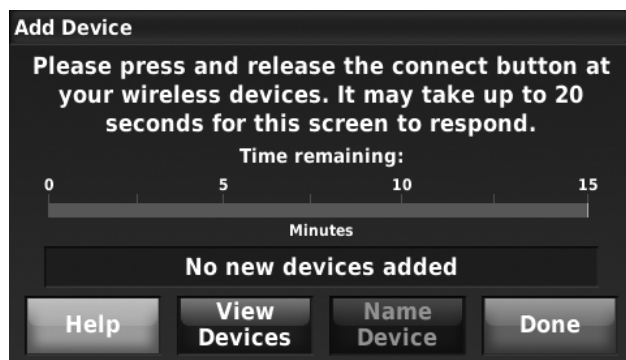

Fig. 22. Add Device screen.
1. While the Add Device screen (see Fig. 22) is displayed on the thermostat, press and release the CONNECT button on each wireless device. Accessories need to be at least 2 feet away from the thermostat, EIM, or TrueZONE Wireless Adapter during the linking process.
2. Press DONE on the Add Device screen after ALL devices have been linked (see Fig. 22).